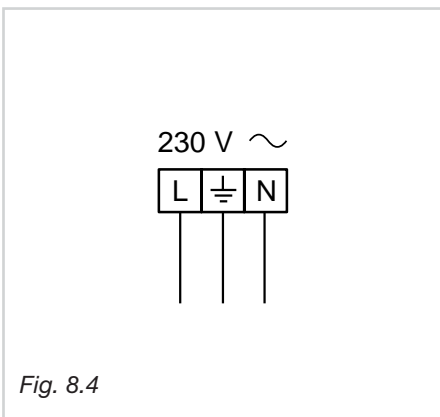

Fig. 8.4
- The electrical cable must be connected to the terminal board following the diagrams of fig. 8.4.